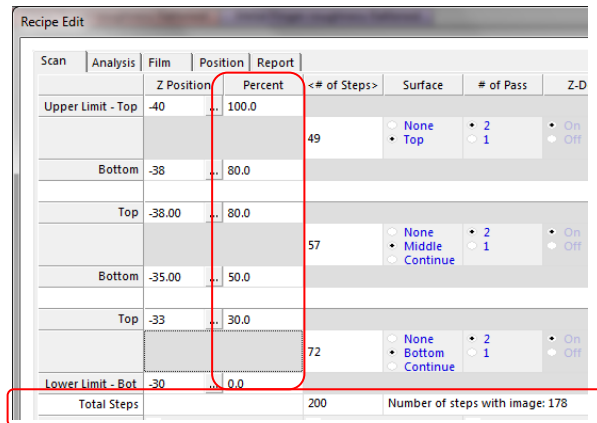

Fig. 90. Percent of scan distance and number of steps displays
7. Enter the *Total Steps* into the recipe editor, as shown in Fig. 90. The software calculates the distance between steps using the *Upper Limit* and *Lower Limit* values. Gaps between zones have the effect of reducing the number of actual measurement steps because measurements are not made in those locations. Therefore you can enter a number larger than 200 for *Total Steps* in order to increase the *Number of steps with image* to 200.